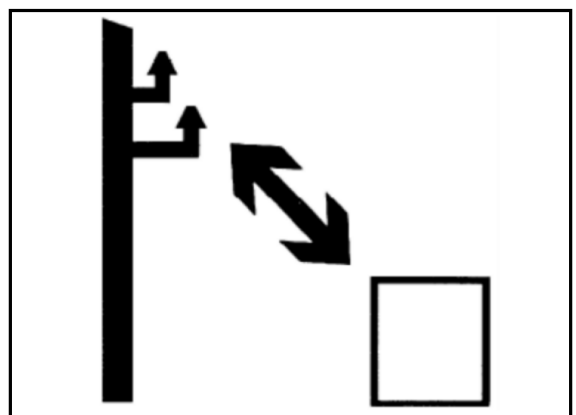

Fig 2.26
**WARNING:** Accidental contact with high voltage, lines cause death. In case of contact with high -voltage conductors DO NOT leave the tractor, move the tractor and/ or the loader in such a way as to eliminate the contact and reach a safe distance (Fig. 2.26).